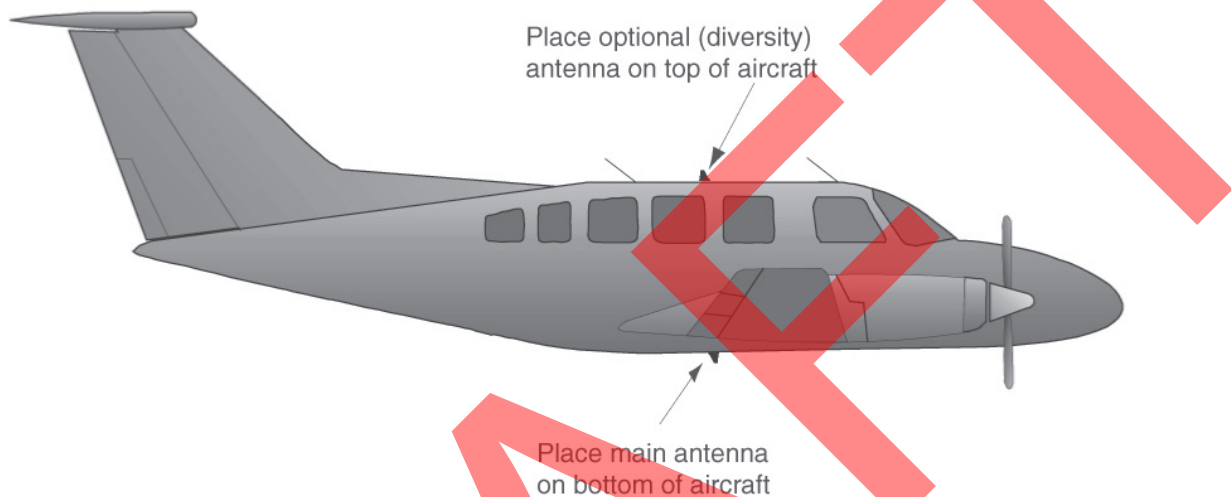

Figure 2-1 Antenna Installation Considerations
Antenna mounting should utilize the aircraft manufacturer's Type Certificated antenna location and style of antenna. If a second (diversity) antenna is installed in the aircraft, considerations for its mounting should be made as outlined in Figure 2-1. The antenna installation should be installed in accordance with AC 43.12-2A Chapter 3. Note that penetration of the pressure vessel on the pressurized aircraft requires additional data not contained in this manual. (See Section 2.5)
- b. The main antenna should be mounted vertically on the bottom of the aircraft (Figure 2-1). The optional second (diversity) antenna should be mounted vertically on top of the aircraft. Horizontal separation must be no more than 7.6 meters (25 feet).